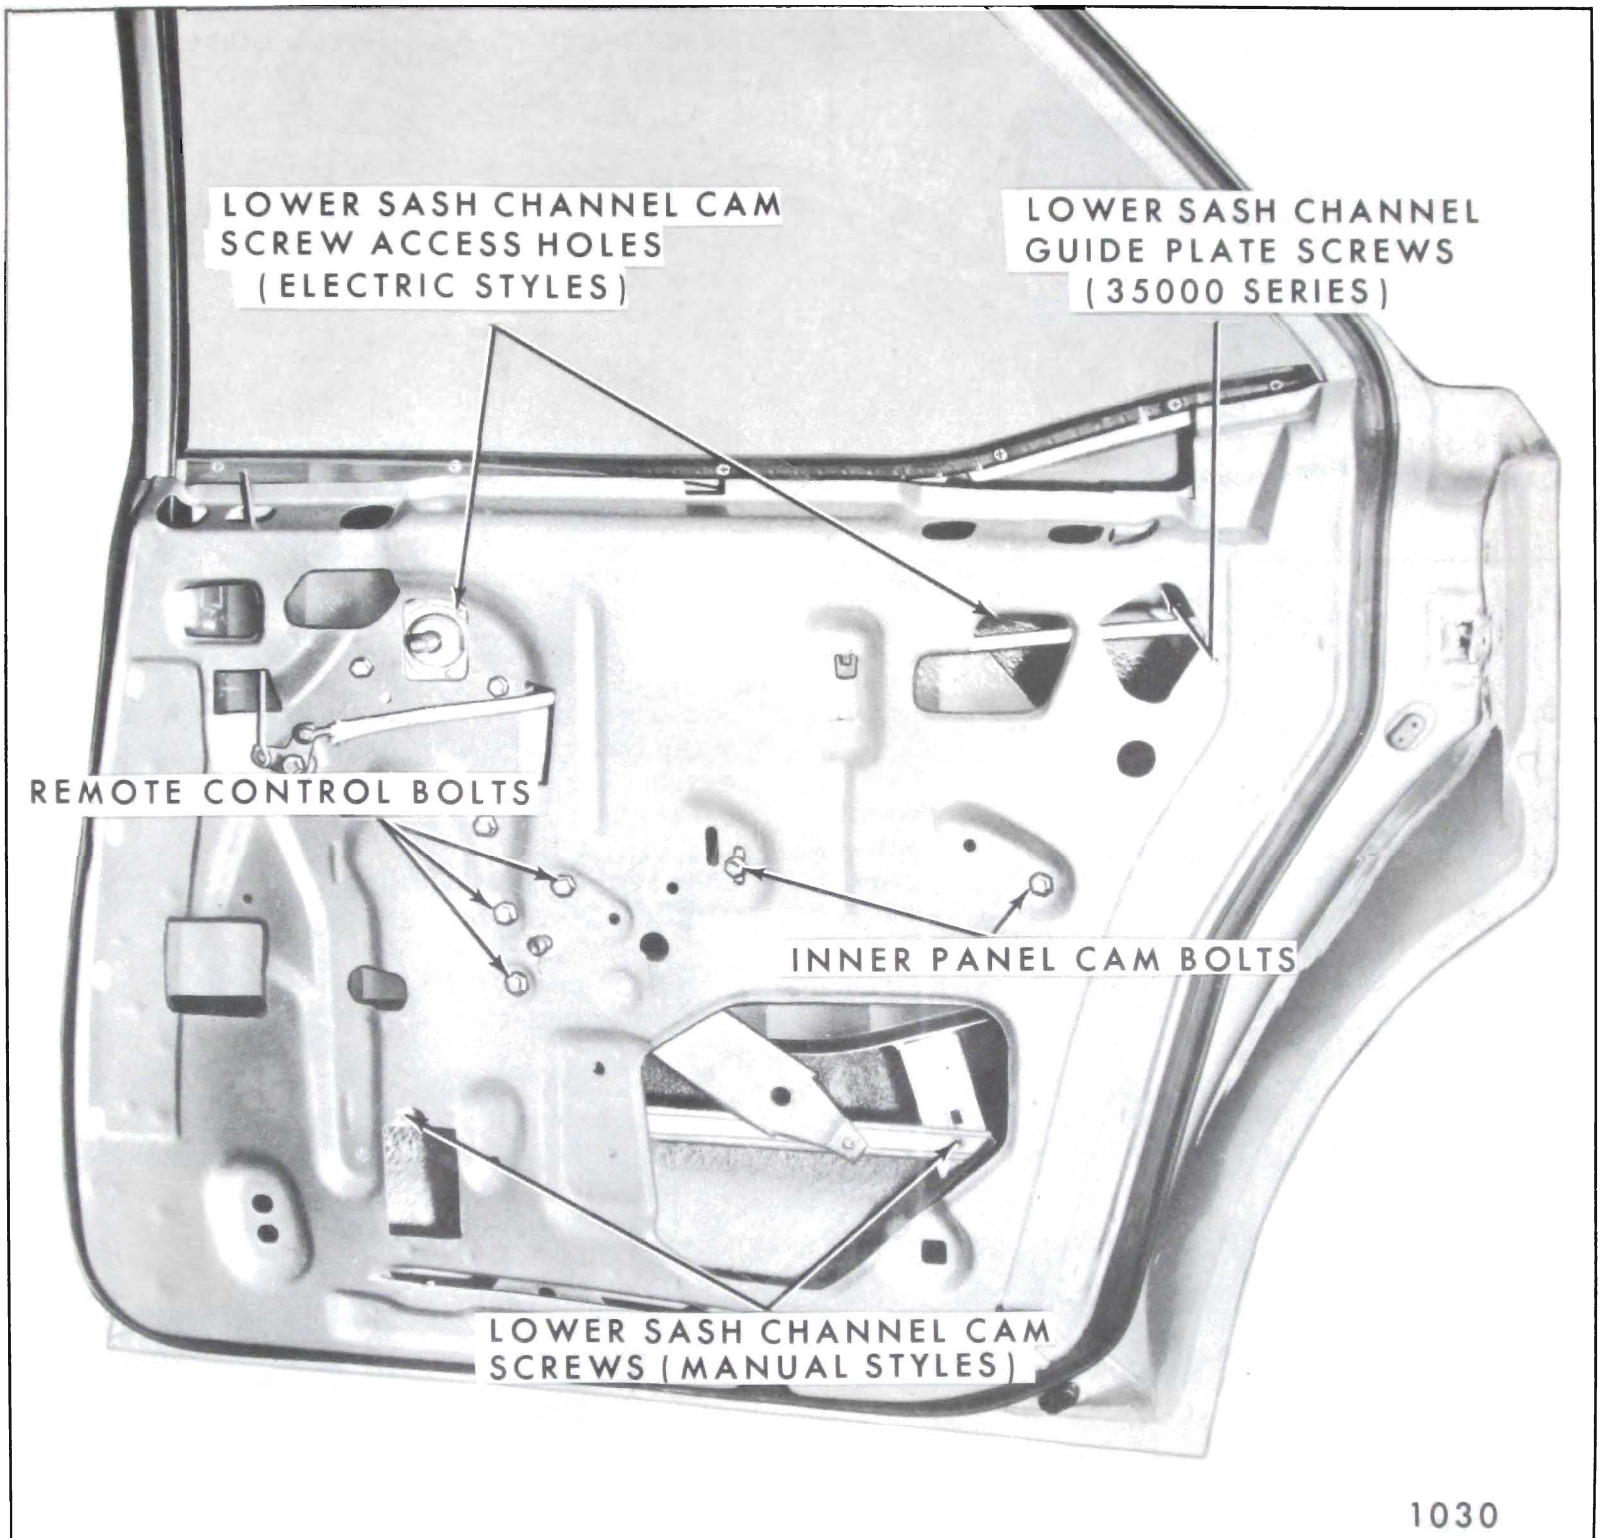
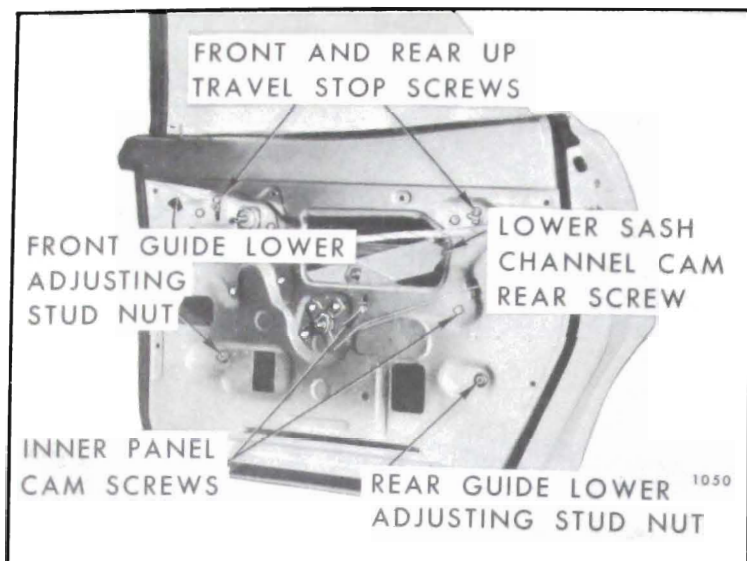

Fig. 7-125—Rear Door Hardware Attachment - "B" Styles Shown - "A" Styles Similar
Fig. 7-126—Rear Door Hardware - "Z-39" Styles
2. Remove inner panel cam attaching bolts (Fig. 7-125). Disengage cam from regulator balance arm roller and remove cam from door.
2. Depending on body style and power options, operate window to position specified in Figure 7-125 for "A-B & C" Styles and Figures 7-126 and 7-127 for "Z" Styles.
- Remove screws securing glass run channel outer strip assembly to door outer panel return flange (Fig. 7-125) and remove strip assembly.
- On 35000 Series "69" Styles, lower window approximately 3" down from full-up position. Remove lower sash channel rear guide plate attaching screws through upper rear access hole and remove guide plate (Fig. 7-125).
- Operate window to position shown in Figure 7-125 and remove lower sash channel cam attaching screws (window slightly down on electric styles and full down on manual).